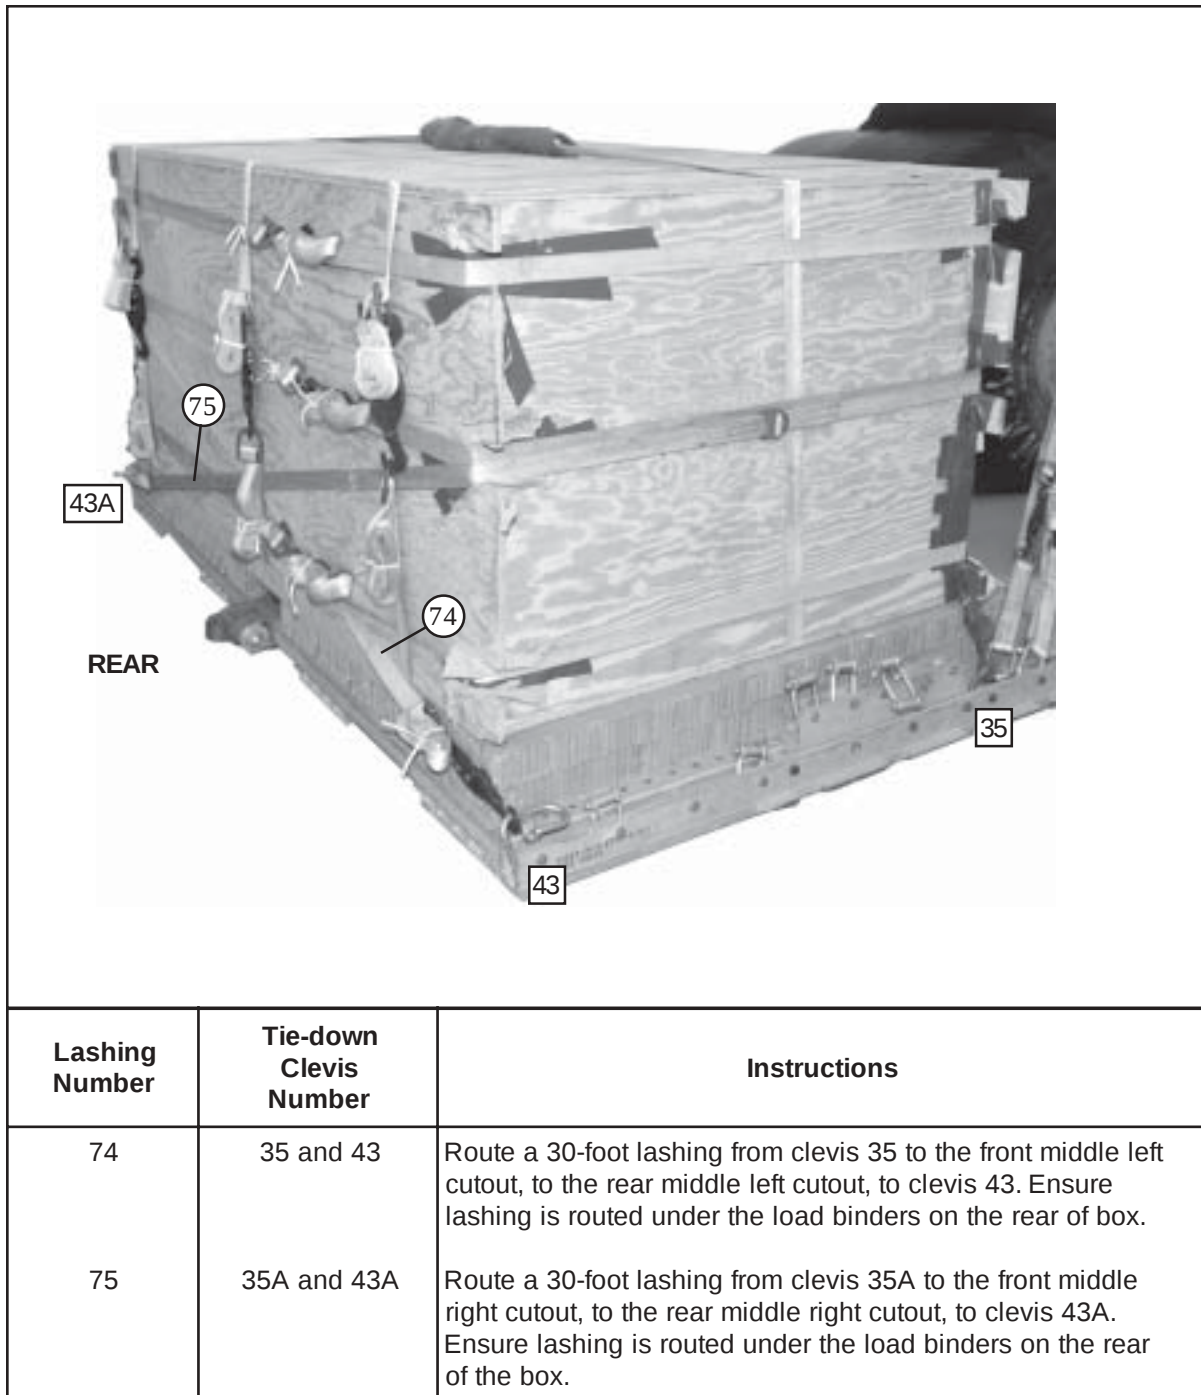

Figure 4-129. Lashings 74 and 75 Installed
4-85. Lash the equipment boxes as shown in Figures 4-100 through 4-102 and Figures 4-129 through 4-131.
b. Lash the rear equipment box to the platform as shown in Figures 4-129 through 4-131.